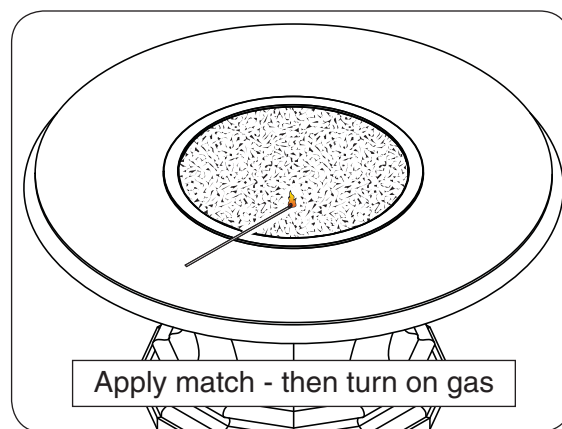

Fig. 25-1
3. Lay a lighted long-stem match on the surface of the decorative media near the burner (**do not hold the match in your hand**) or use a lighted long-necked butane lighter (Fig. 25-1).